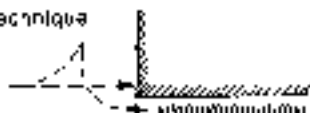

Fig. 19
b) Working horizontally across slopes (Fig. 19)